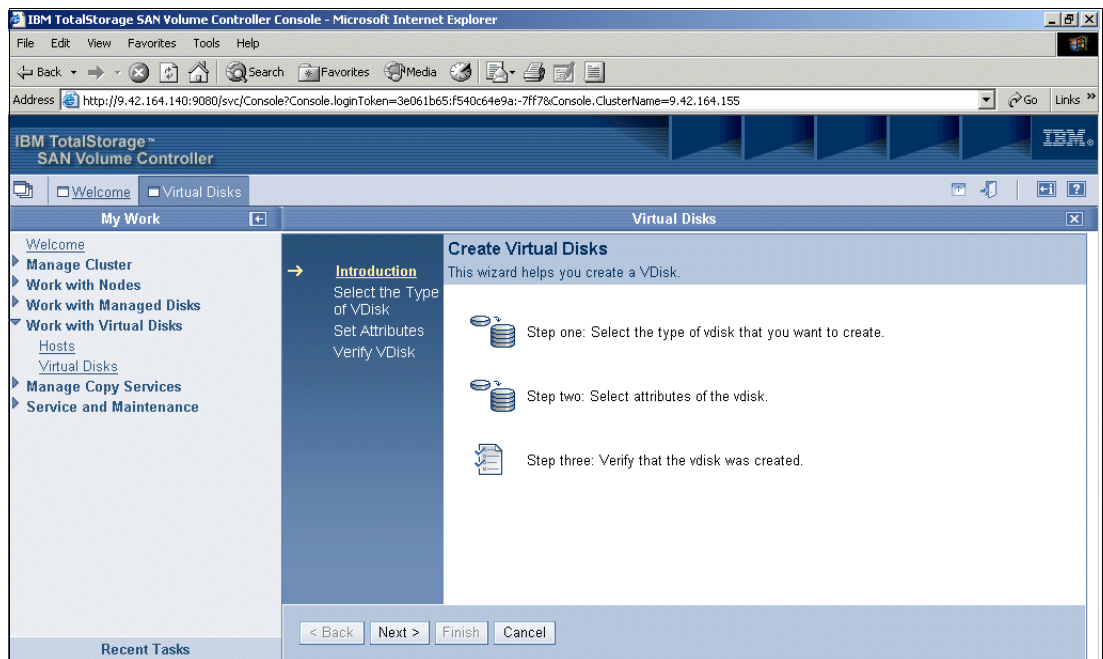

Figure 9-61 Creating a vDisk wizard: Introduction
2. The Create Virtual Disks wizard launches (Figure 9-61). Click **Next**.